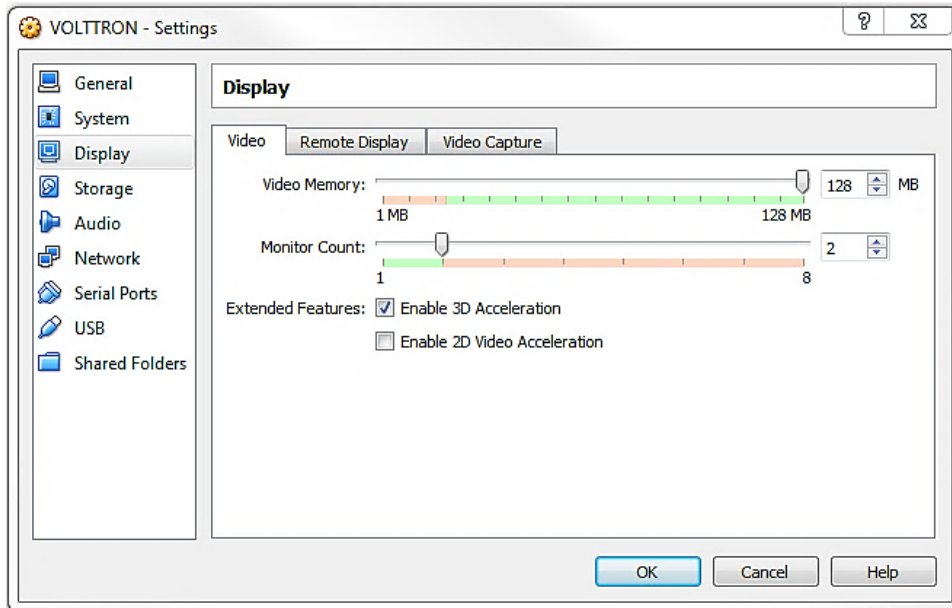

Figure 10: Selection of display type
8. With the newly created VM selected choose Machine from the VirtualBox menu in the top left corner of the VirtualBox window; from the drop down menu choose Settings. In the Display menu check Enable 3D Acceleration (Figure 10). Choose OK.
9. With the newly created VM selected choose Machine from the VirtualBox menu in the top left corner of the VirtualBox window; from the drop down menu choose Settings. In the system menu go to the Processor tab and Enable PAE/NX (Figure 10). Choose OK.